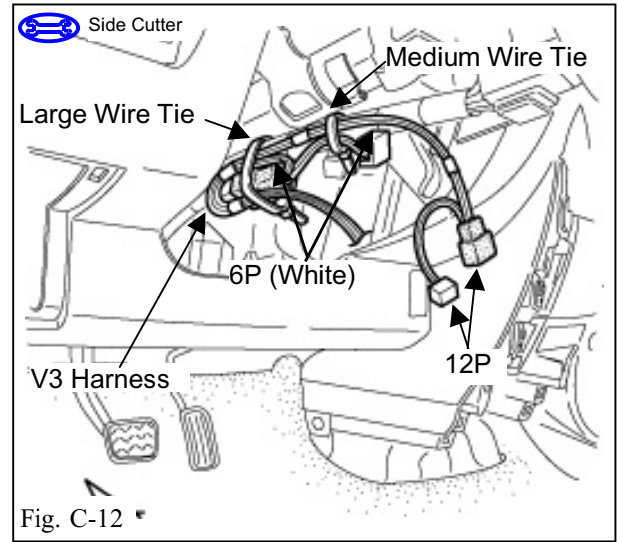

Fig. C-12
23. Plug in the V3 harness' white 6P connectors between the vehicle harness white 6P connector and the lower part of steering wheel. (Fig. C-12)
24. Secure the 6P connectors and V3 harness to the vehicle harness with one large wire tie. (Fig. C-12)
25. Secure the V3 harness to the vehicle harness with one medium wire tie. (Fig. C -12)